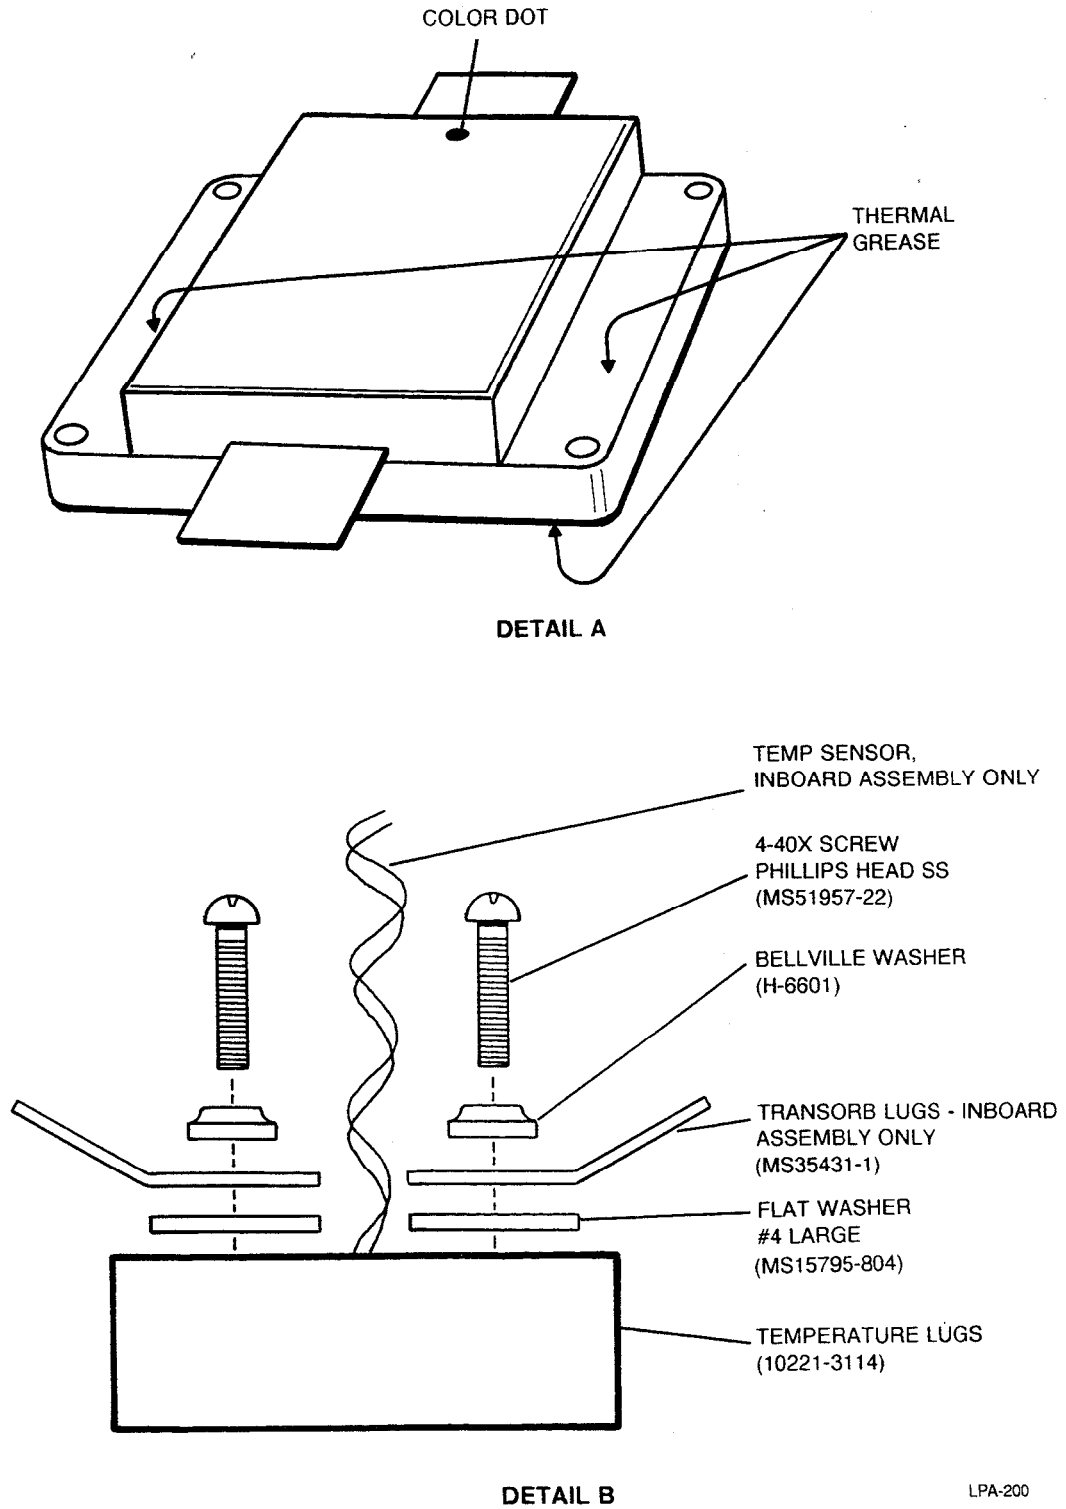

Figure 3-1. RF Power Transistor Mounting Procedure
- i. Place a light, uniform coating of grease on the copper bottom of the MOSFET, and on the gold top surface adjacent to the ceramic cap (see detail A of figure 3-1).
- l. Prepare the mounting hardware as shown in detail B of figure 3-1. Be sure to use new Bellville washers and follow the sequence exactly. Verify that drain (P6KE39A) and gate (P6KE18CA) Tranzorbs are not interchanged.